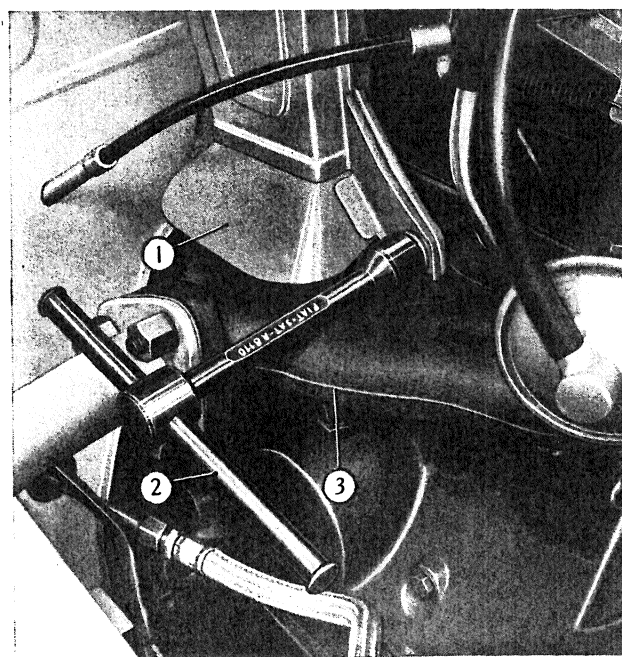

Fig. 145 - Removal of air cleaner and exhaust manifold using wrench A. 8110.
- b) slacken the two cleaner lower end nuts from the studs on exhaust manifold (fig. 145);